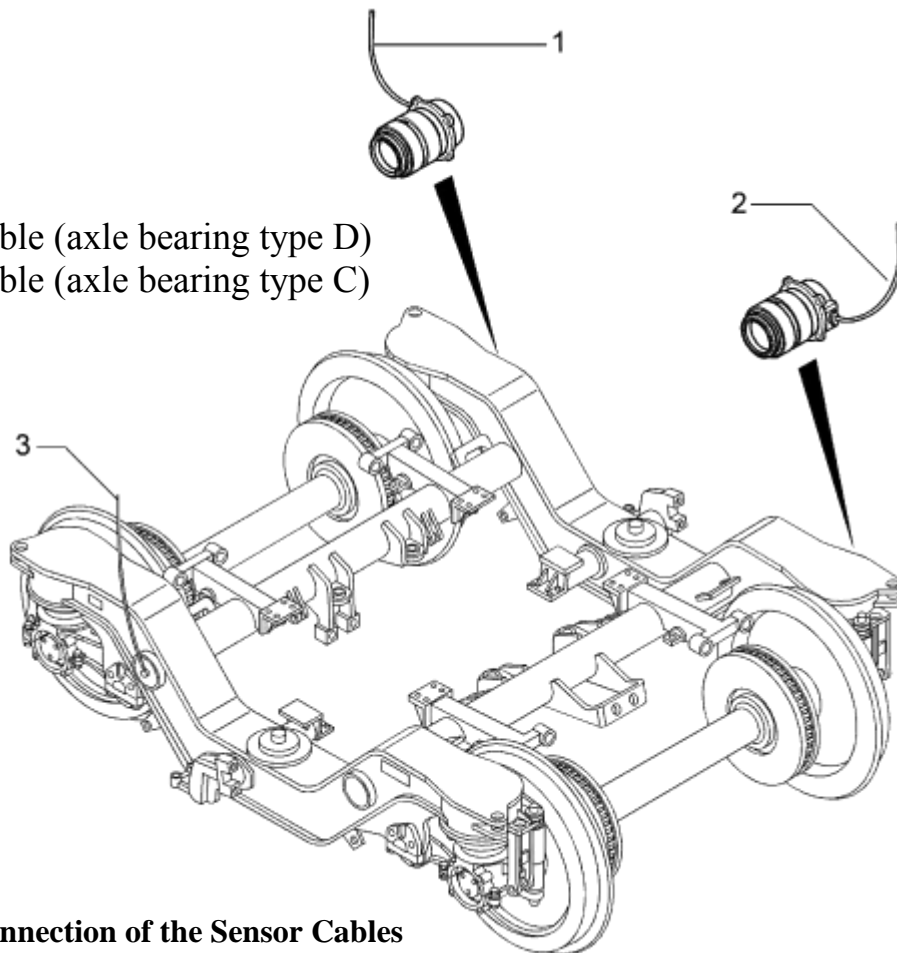

FIG. 4-15 Disconnection of the Sensor Cables
Disconnect the cables (1, 2 - FIG. 4-15) which link the sensors on the axle-bearings to the coach body equipment, and the ground cable (3) between the coach body and the frame.